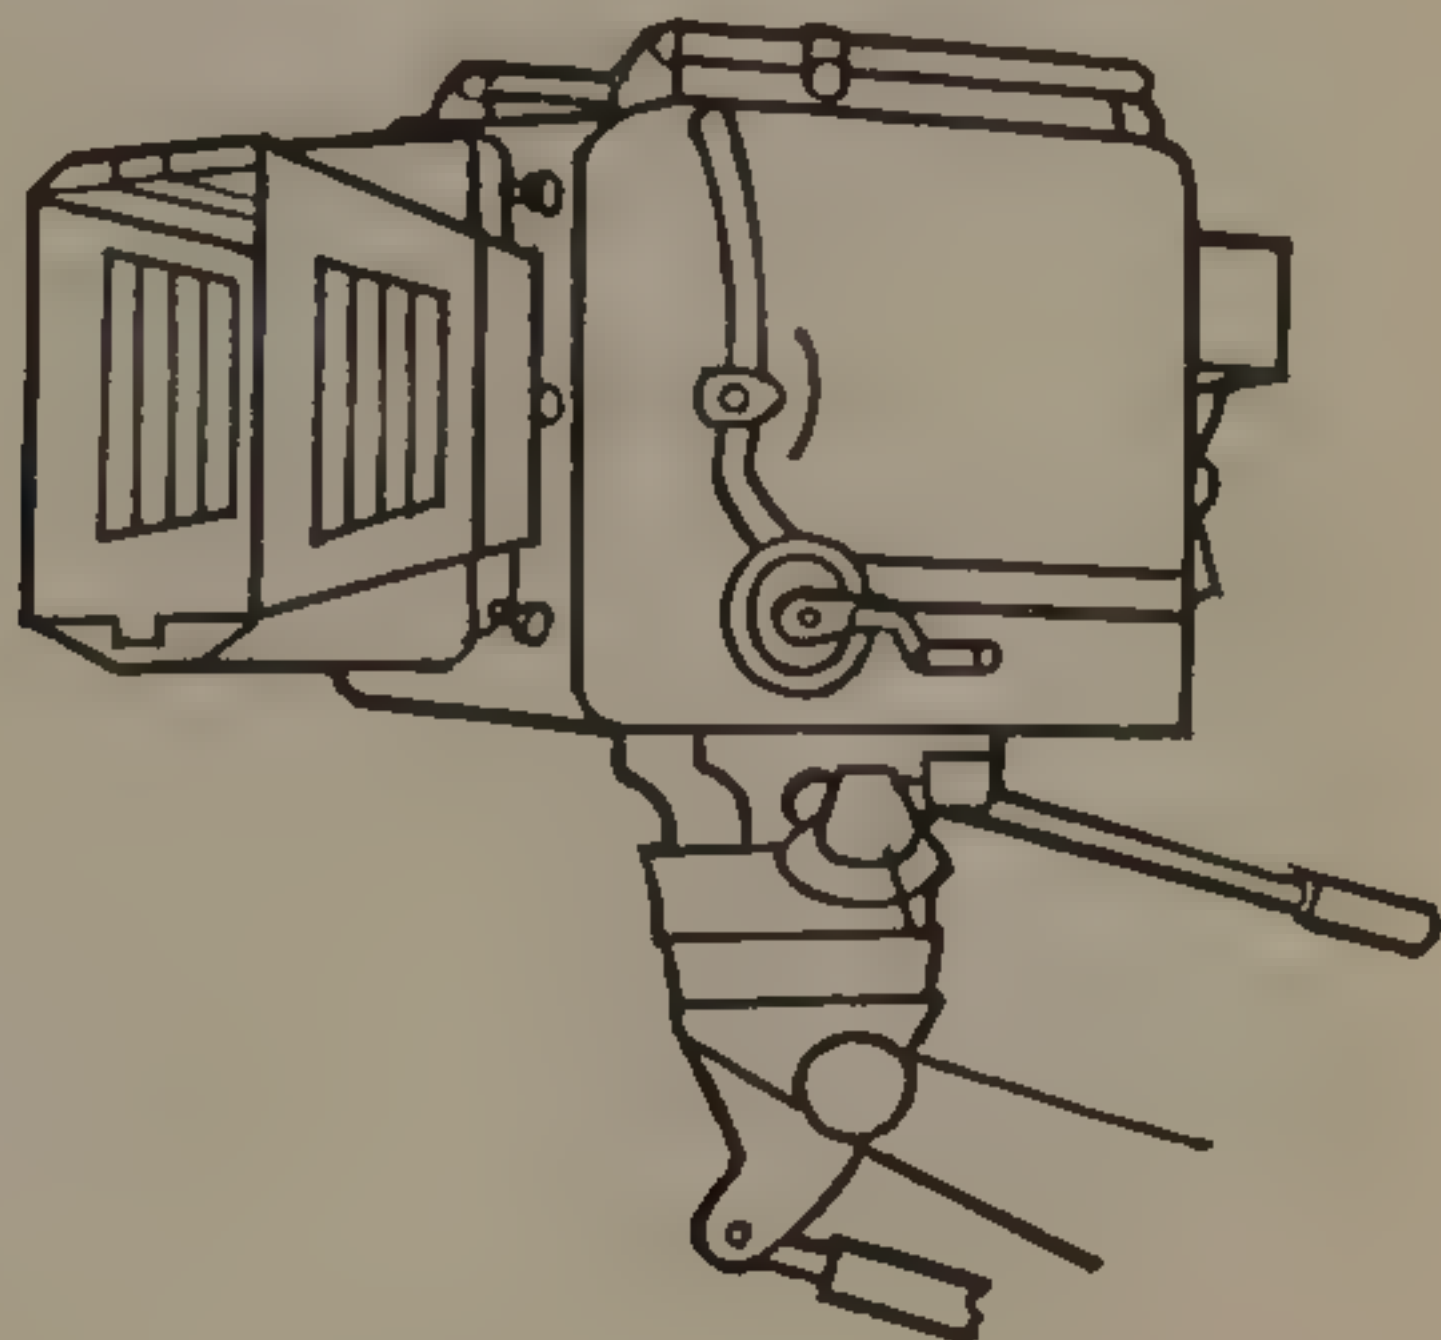

Fig. 7. Vinten Everest II camera which has reflex viewing and internally mounted film magazines.
Fig. 7. Simplified diagram of the operation of the eccentric mechanism in Mitchell NC, BNC and BNCR cameras. (1) Main shaft, (2) eccentric, (3) pull-down arm, (4) eccentric housing, (5) connecting rod, (6) housing, (7) shaft, (8) operating rod.